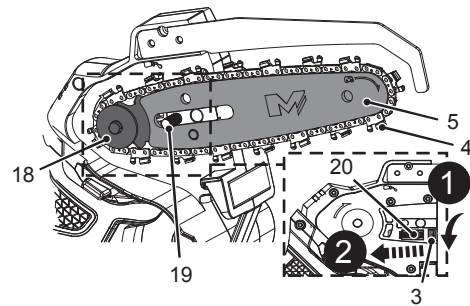

Fig. 3
4. Align the saw chain (4) and guide bar (5) assembly with the drive sprocket (18) and the mounting bolt (19). Lay the saw chain (4) around the drive sprocket (18) and then lower the guide bar (5) to install it to the mounting bolt (19) (Fig. 3).
5. Make sure the tension pin (20) is inserted into the lower hole on the guide bar (5). Screwing the tension screw (3) in to adjust the tension pin (20) to the end of slot using the supplied multi-tool (24) if necessary (Fig. 3, steps 1, 2).